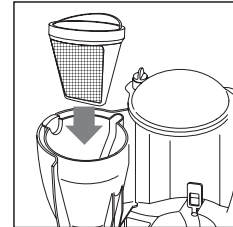

fig. 8
- In versions with a permanent filter, place the permanent filter in the filter holder (Fig. 8). In other versions, use the size "4" paper filter.